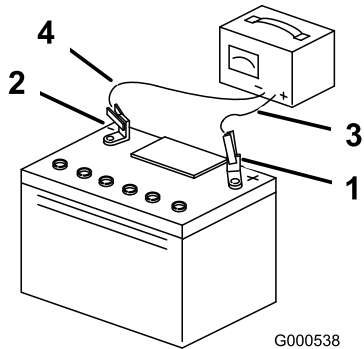

Figure 49
- When the battery is fully charged, unplug the charger from the electrical outlet, then disconnect the charger leads from the battery posts (Figure 49).